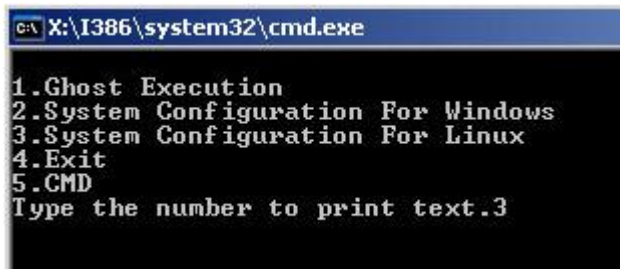

Figure A-20: System Configuration for Linux
Step 4: Build-up recovery partition. Press any key to boot from the recovery CD. It will take a while to launch the recovery tool. Please be patient. When the recovery tool setup menu appears, type <3> and press <Enter> (**Figure A-20**). The Symantec Ghost window appears and starts configuring the system to build-up a recovery partition. After completing the system configuration, press any key to reboot the system. Eject the recovery CD.